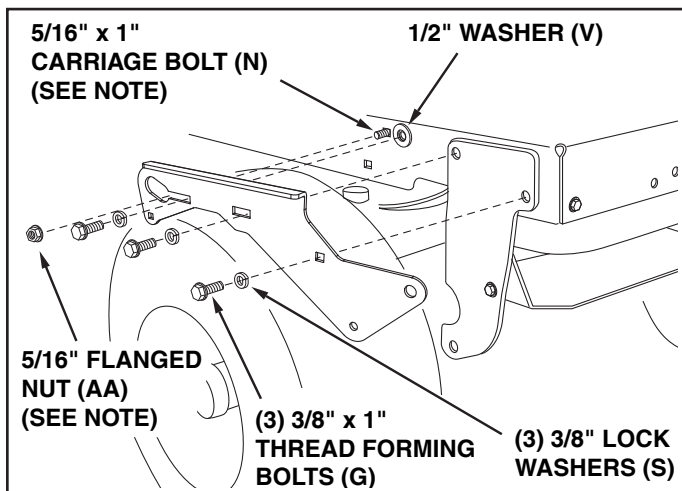

FIGURE 21 RIGHT SIDE VIEW
STEP 22: (SEE FIGURE 21)
- Fasten the R.H. Side Plate (bend facing out) to the front three holes shown in the tractor frame using three 3/8" x 1" thread forming bolts (G), three 3/8" lock washers (S) and one 1/2" washer (V) placed on the third bolt as a shim between the side plate and the frame. Tighten all bolts. Repeat for the L.H. side.